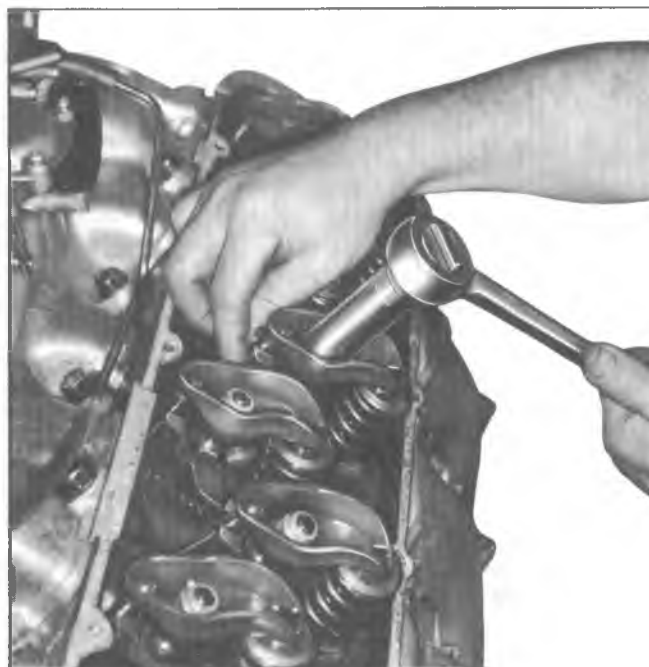

Fig. 22—Valve Adjustment (V8 Engine)
- b. Valve adjustment is made by backing off the adjusting nut (rocker arm stud nut) until there is play in the push rod and then tighten nut to just remove all push rod to rocker arm clearance. This may be determined by rotating push rod with fingers as the nut is tightened (fig. 22). When push rod does not readily move in relation to the rocker arm, the clearance has been eliminated. The adjusting nut should then be tightened an additional 1 turn to place the hydraulic lifter plunger in the center of its travel. No other adjustment is required.